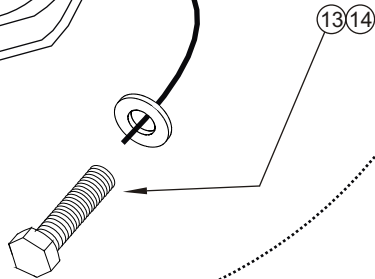

FIGURE 2
- STEP 2. Locate the rectangular holes in frame towards the front of the vehicle. Attach front brackets as shown. Hand tighten. **SEE FIGURE 2**
- STEP 4. Attach rear brackets as shown. Hand tighten. **SEE FIGURE 2**
- STEP 5. Attach step bars as shown. Hand tighten. **SEE FIGURE 2.**